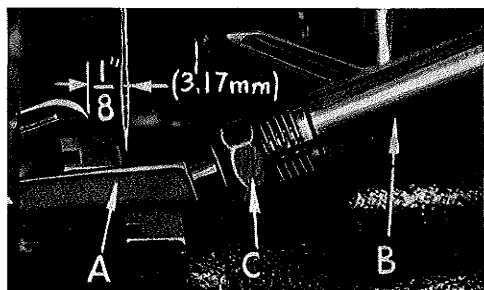

Fig. 5
At this point on all Styles except 39500 TG, insert lower looper (A, Fig. 5) into bar (B). On Style 39500 TG insert lower spreader into bar (B). With lower looper at left end of its stroke, set looper point  $1/8$  inch (3.17 mm) from center of needle (Fig. 5), using looper gauge No. 21225- $1/8$  for Styles 39500 QJ, QL, QN, QV, RP, RU, SJ and SR. Set lower looper point for Styles 39500 QX, SX and TY; and lower spreader point for Style 39500 TG  $3/32$  inch (2.38 mm) from center of needle, using looper gauge No. 21225- $3/32$ . Do not have lower looper or lower spreader deflecting needle. Tighten nut (C).